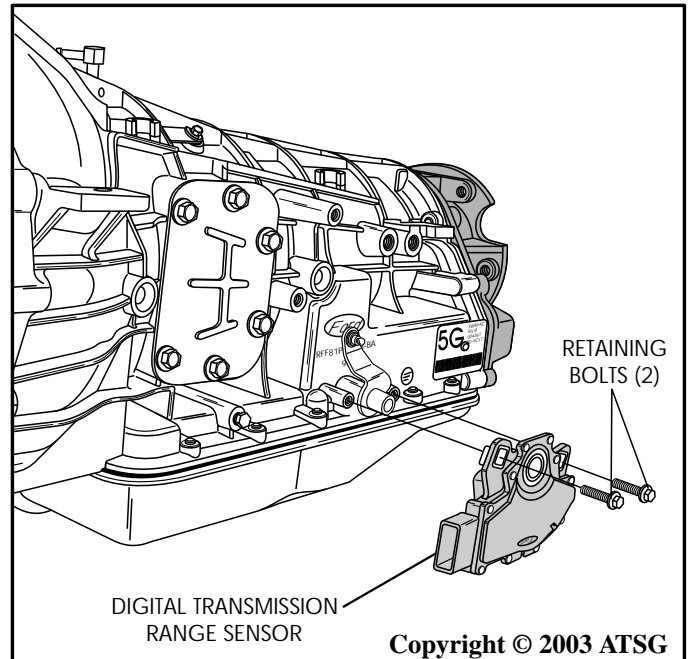

Figure 199
19. Rotate transmission in fixture so bottom pan is facing down, as shown in Figure 199.
2. Install the Digital Transmission Range (DTR) sensor, as shown in Figure 199, install 307-351 alignment tool (or equivalent).
3. Install the two sensor retaining bolts, as shown in Figure 199, and torque retaining bolts to, 8-10 N·m (71-88 in.lb.).